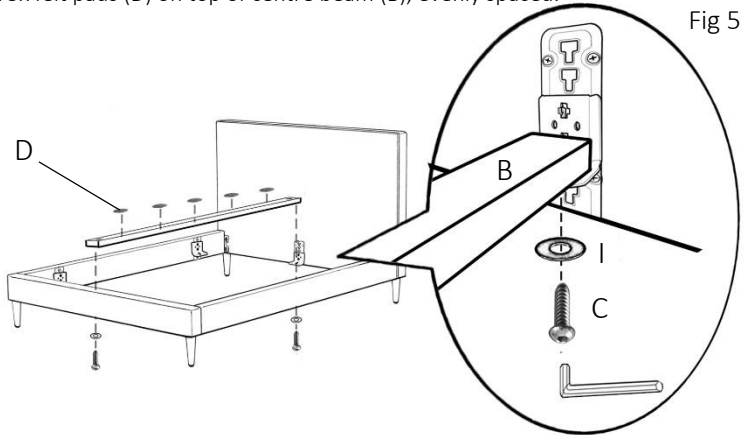

Fig 5
1. Lay centre beam (B) onto the two brackets (A) positioned on the headboard and footboard. Use the allen key provided to secure in place from beneath with bolt (C) and washer (I) at both ends. (See Fig 5) **TIGHTEN SECURELY.**
2. Stick 5x felt pads (D) on top of centre beam (B), evenly spaced.